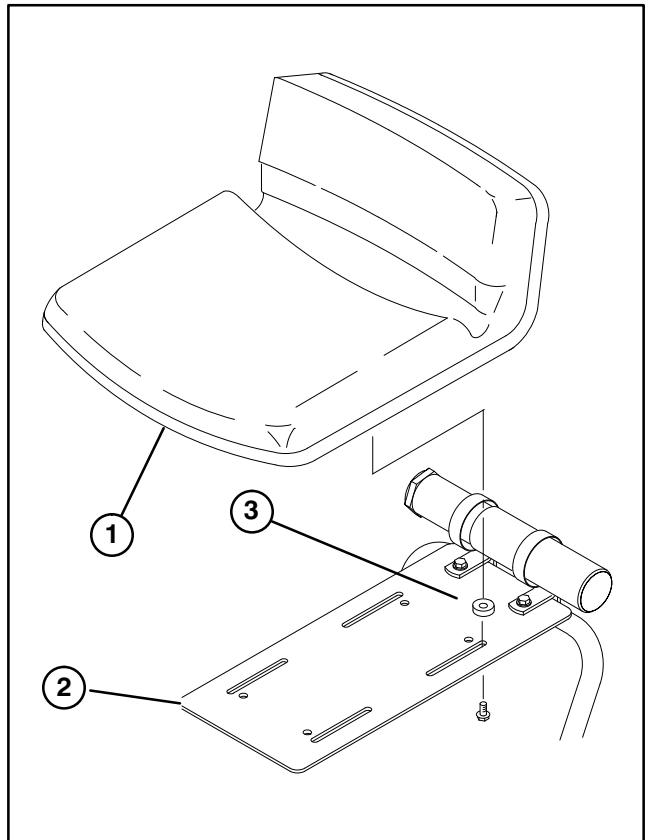

Figure 3
MOUNT SEAT (Fig. 3)
1. Secure seat to seat plate with (4) spacers and 5/16–18 x 5/8" lg. flangehead capscrews (Fig. 3).